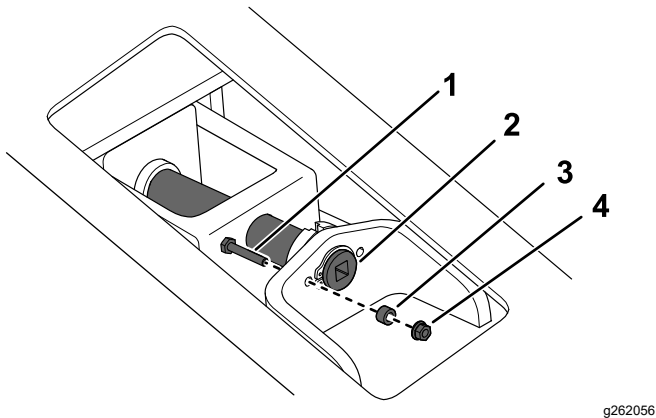
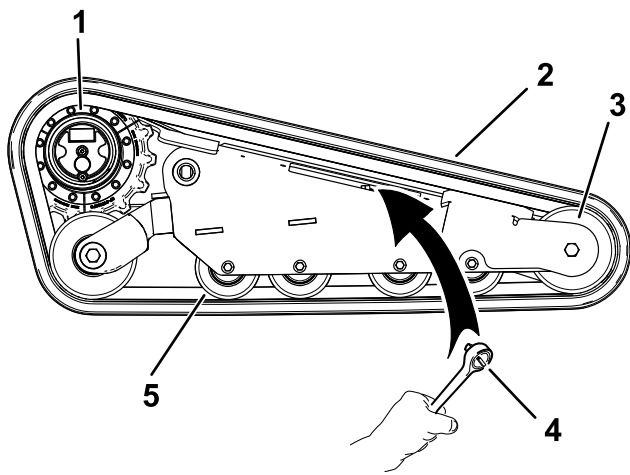

Figure 67
Figure 69
6. Remove the locking bolt, spacer, and nut (Figure 67).
8. Align the notch in the tension screw to the nearest locking-bolt hole and secure the screw with the locking bolt, spacer, and nut (Figure 67).
7. Using a 1/2-inch drive ratchet, release the drive tension by turning the tensioning screw clockwise (Figure 67 and Figure 69).
- Wrap the new track around the front wheel (Figure 69).
- Push the track under and between the road wheels and wrap it around the rear tension wheel (Figure 69).